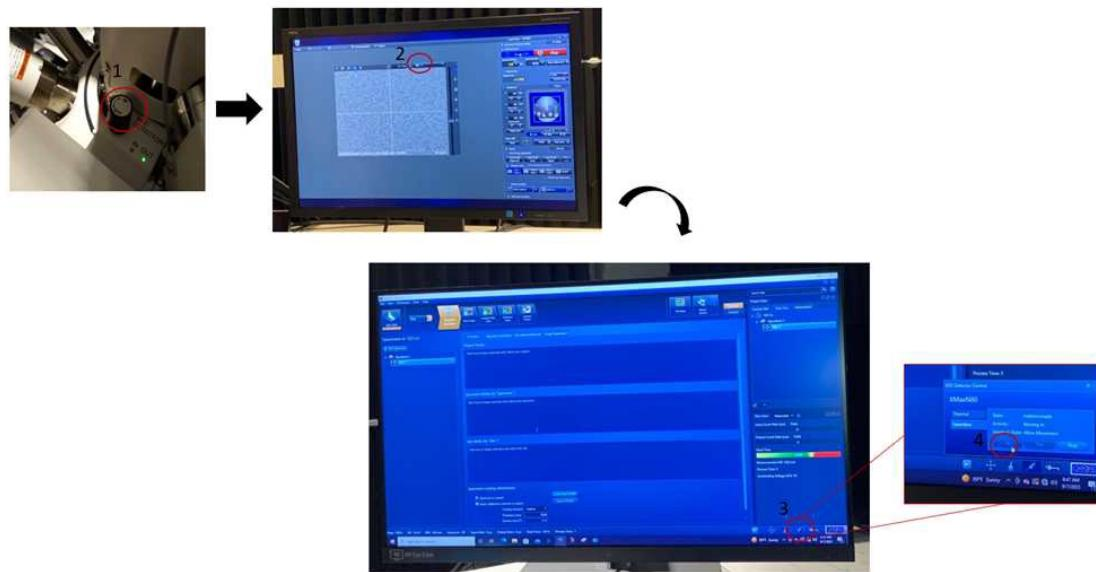

Figure 10. Insert detector
- Insert the detector by turning slowly in the "IN" direction until it stops (Figure 10)